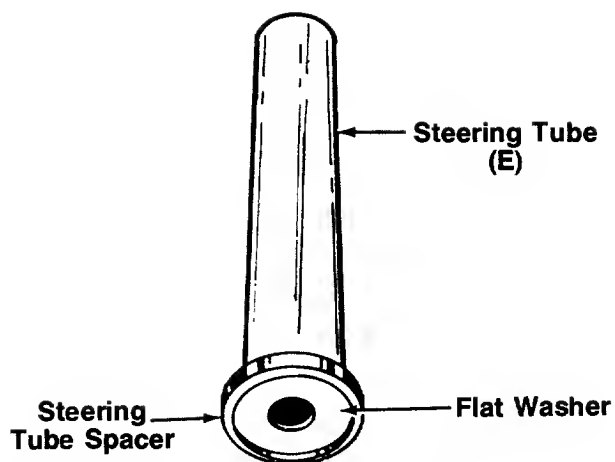

FIGURE 3.—Models 510, 520, 530 and 550
2. Press the large **flat washer** (1-5/8" diameter) into the open side of the black plastic **steering tube spacer**. See figure 3.
3. Press the **steering tube spacer** into one end of the chrome-plated **steering tube (E)**. Make certain spacer is seated securely into tube.